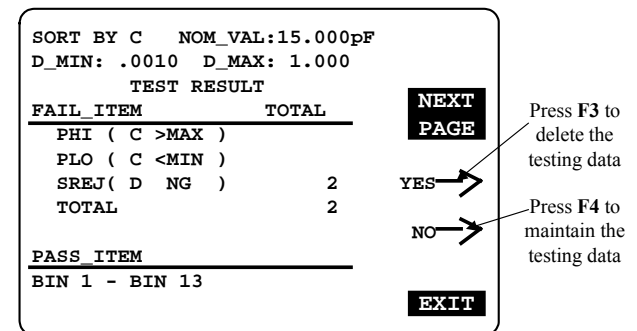

Figure 8-26
- Press **F3** or **F4** key to select delete or non-delete test result (Figure8-26).